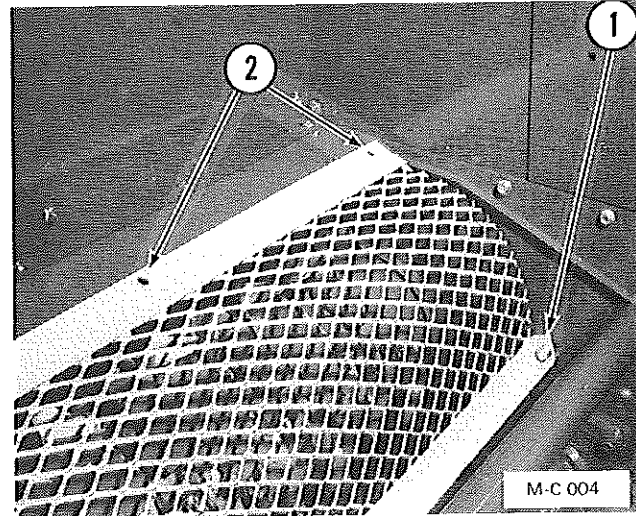

Figure 10
3. Place the leaf mulching screen in place as shown in Figure 10. Bolt both bottom ends in place with  $\frac{3}{8}$ -16 x  $\frac{3}{4}$ " hex-head capscrews, lockwashers and hex-nuts, see 1 in Figure 10.
4. Install the rear cover over the leaf mulching screen by reversing the procedure in step 2. The five capscrews, lockwashers and flat-washers removed from the top of the rear cover go through the rear cover and the holes at the top of the leaf mulching screen, see 2 in Figure 10.